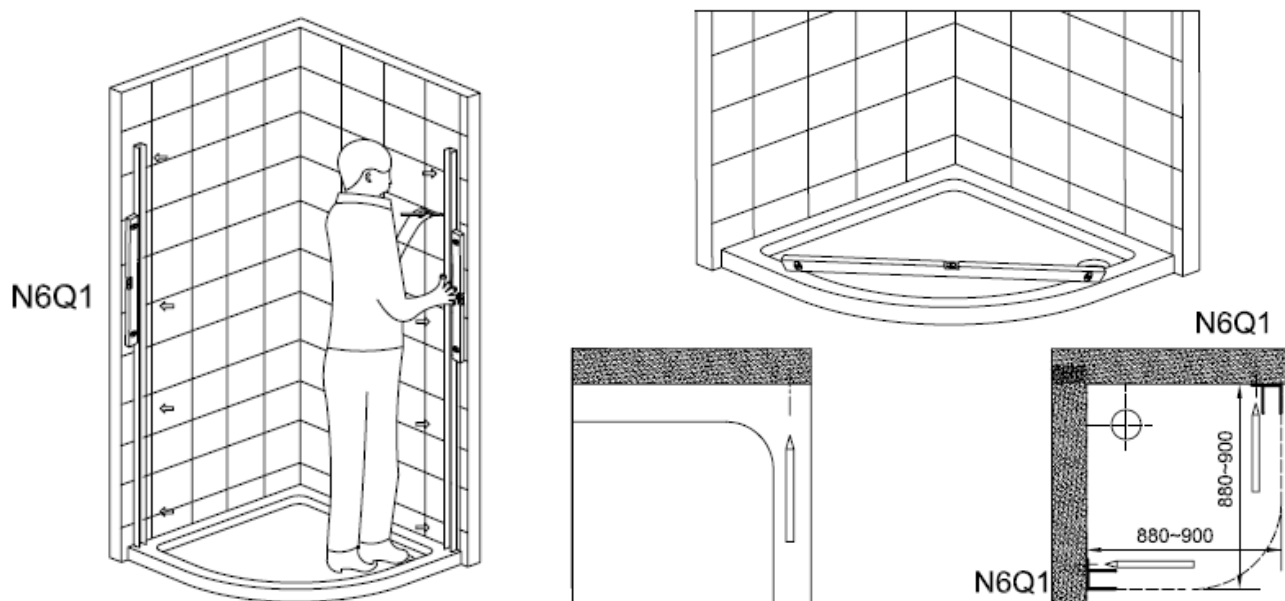

Figure 1
1. Lift the wall profile(N6Q1) upto the wall.Check whether the frame is vertical by using a spirit level.Mark the holes to the walls with a pencil.Using the spirit level to make sure the frame between the walls is horizontal,as showed in figure 1.